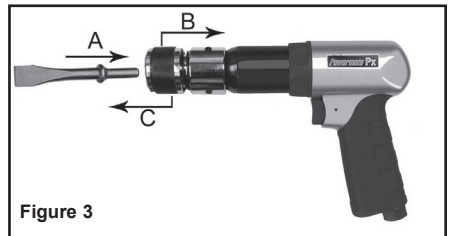

Figure 3
- Assemble the selected chisel to the air hammer (see Figure 3);
8. To change chisels (see Figure 3);